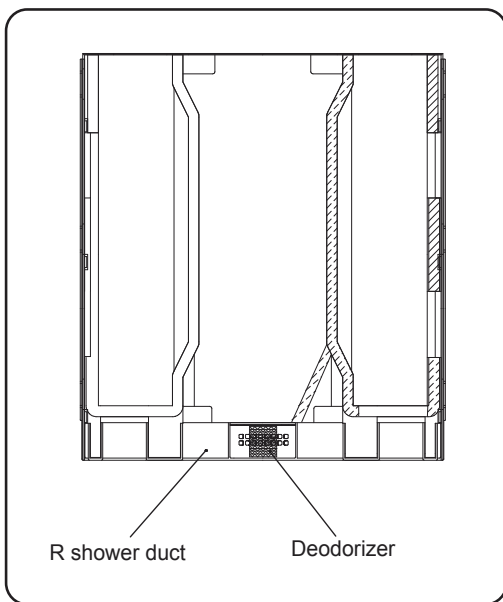

Figure A-13
- 3) Stick A-sealer R-shower-d to "2" ass'y. (Figure A-13)